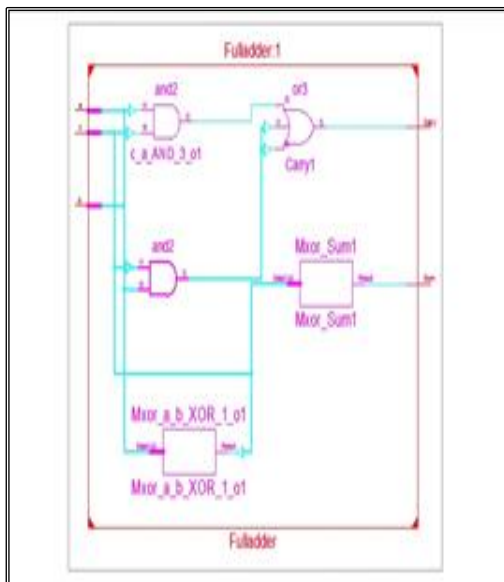
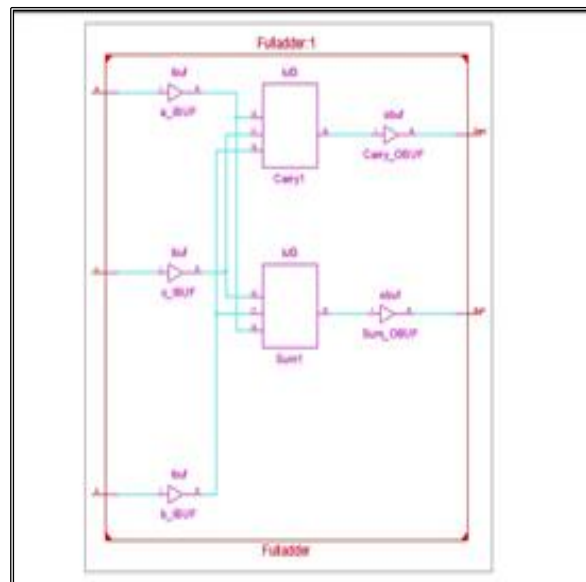

Fig 3.19: RTL View
Fig 3.20: Technology View
- For the implementation of the design, select **Implementation** Button in the Hierarchy window on the left pan (Fig 3.19).
21. Synthesize tool can generate two forms of schematic representation, in the form of **RTL View** (Fig 3.19) and **Technology View** (Fig 3.20) for the “Fulladder.v”. Double click on the RTL schematic and Technology schematic for viewing the respective schematics.